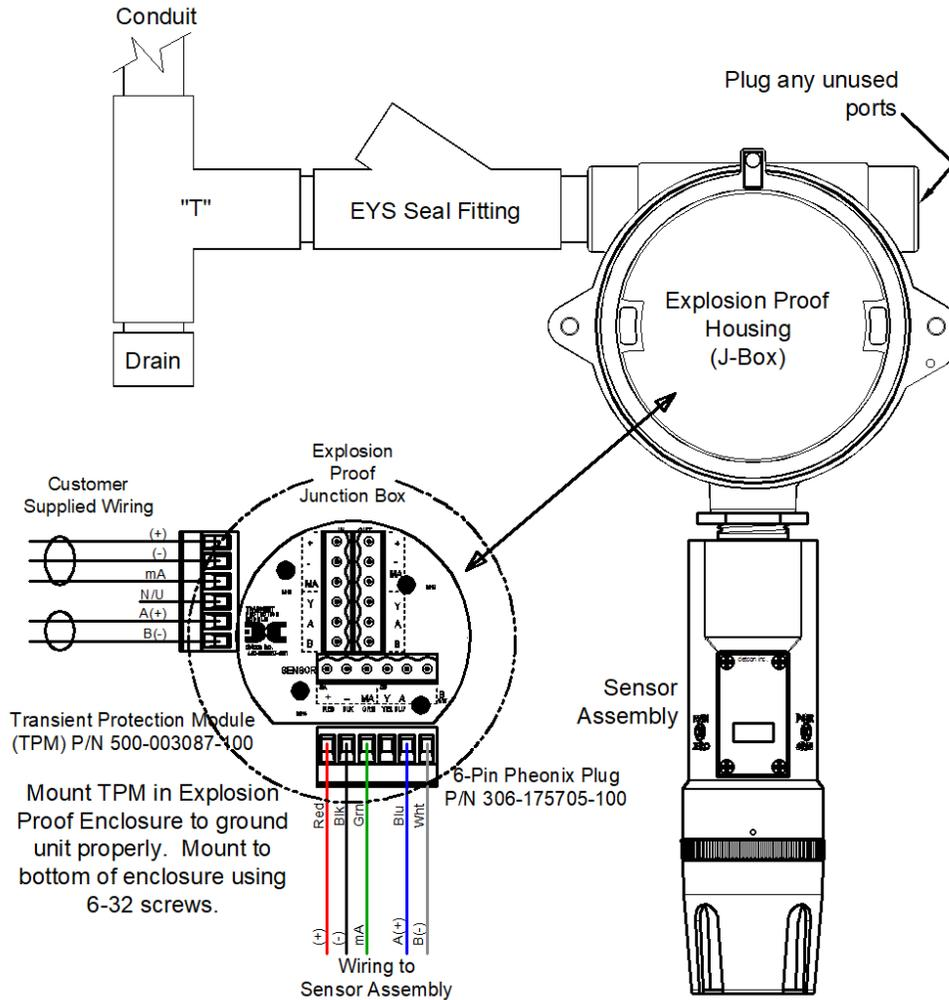
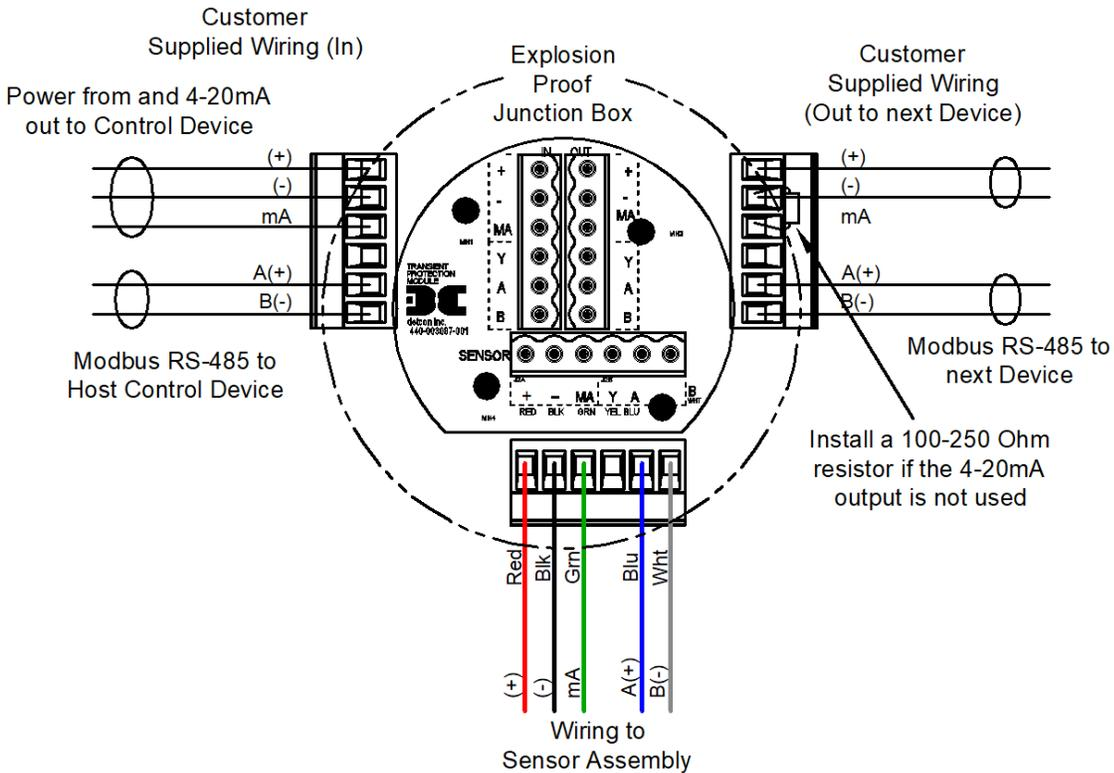

Figure 8 Typical Installation
Figure 9 Sensor Wire Connections
NOTE: In all installations the gas sensor should point straight down (refer to Figure 8). Improper sensor orientation may result in false readings and permanent sensor damage.
Proper electrical installation of the gas sensor is critical for conformance to Electrical Codes and to avoid damage due to water leakage. Refer to Figure 8 and Figure 9 for proper electrical installation
NOTE: If a conduit run exits the secondary port, repeat the installation technique shown in Figure 8.
In Figure 8, the drain allows H₂O condensation inside the conduit run to safely drain away from the sensor assembly. The electrical seal fitting is required to meet the National Electrical Code per NEC Article 500-3d (or Canadian Electrical Code Handbook Part 1 Section 18-154). Requirements for locations of electrical seals are covered under NEC Article 501-5. Electrical seals also act as a secondary seal to prevent water from entering the wiring terminal enclosure. However, they are not designed to provide an absolute water-tight seal, especially when used in the vertical orientation.
- b) Observing correct polarity, terminate the 3-conductor 4-20mA field wiring (+, -, mA) to the sensor assembly wiring in accordance with the detail shown in Figure 9. If the 4-20mA output is not used, the green wire from the sensor must be connected to the (-) terminal on the Transient Protection Module.
- c) If applicable, terminate the RS-485 serial wiring as shown in Figure 9. Use the second plug (Out) as termination point on the customer side to facilitate a continuous RS-485 serial loop